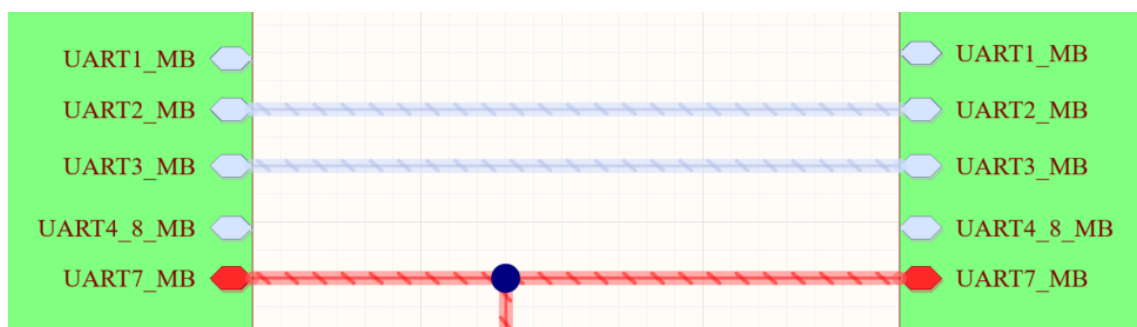

Figure 29. Synchronized sheet entries between sheet symbols
63. Repeat the process to **Add Sheet Entries** for both of the unmatched Ports onto the 2\_mb\_conn sheet symbol. Your final result should look similar to Figure 29 below.